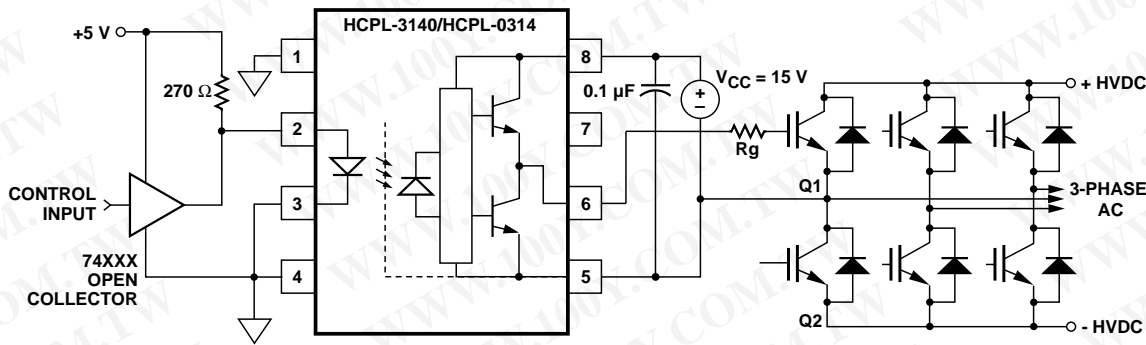
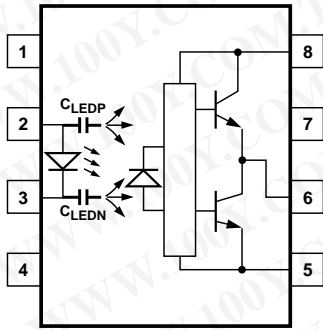

Figure 19. Recommended LED Drive and Application Circuit for HCPL-3140/HCPL-0314.
Figure 21. Optocoupler Input to Output Capacitance Model for Unshielded Optocouplers.
HCPL-3140/HCPL-0314 on a small PC board directly above the IGBT) can eliminate the need for negative IGBT gate drive in many applications as shown in Figure 19. Care should be taken with such a PC board design to avoid routing the IGBT collector or emitter traces close to the HCPL-3140/HCPL-0314 input as this can result in unwanted
Step 1: Calculate Rg minimum from the IOL peak specification. The IGBT and Rg in Figure 19 can be analyzed as a simple RC circuit with a voltage supplied by the HCPL-3140/HCPL-0314.
where $K_{ICC} \cdot Q_g \cdot f$ is the increase in ICC due to switching and K_{ICC} is a constant of 0.001 mA/(nC*kHz). For the circuit in Figure 19 with IF (worst case) = 10 mA, Rg = 32 Ω, Max Duty Cycle = 80%, Qg = 100 nC, f = 20 kHz and TAMAX = 85°C:
Without a detector shield, the dominant cause of optocoupler CMR failure is capacitive coupling from the input side of the optocoupler, through the package, to the detector IC as shown in Figure 21. The HCPL-3140/HCPL-0314 improves CMR performance by using a detector IC with an optically transparent Faraday shield, which diverts the capacitively coupled current away from the sensitive IC circuitry. However, this shield does not eliminate the capacitive coupling between the LED and opto-coupler pins 5-8 as shown in Figure 22. This capacitive coupling causes perturbations in the LED current during common mode transients and becomes the major source of CMR failures for a shielded optocoupler. The main design objective of a high CMR LED drive circuit becomes keeping the LED in the proper state (on or off) during common mode transients. For example, the recommended application circuit (Figure 19), can achieve 10 kV/μs CMR while minimizing component complexity.
supplied by the LED, and it is not recommended for applications requiring ultra high CMR_L performance. The alternative drive circuit which like the recommended application circuit (Figure 19), does achieve ultra high CMR performance by shunting the LED in the off state.